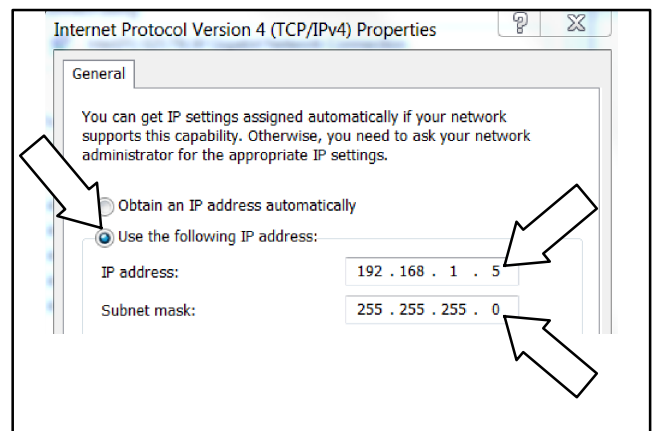

Figure 10 Entering the IP Address and Subnet Mask
- 5.7 Click on Use the following IP address. See Figure 10.